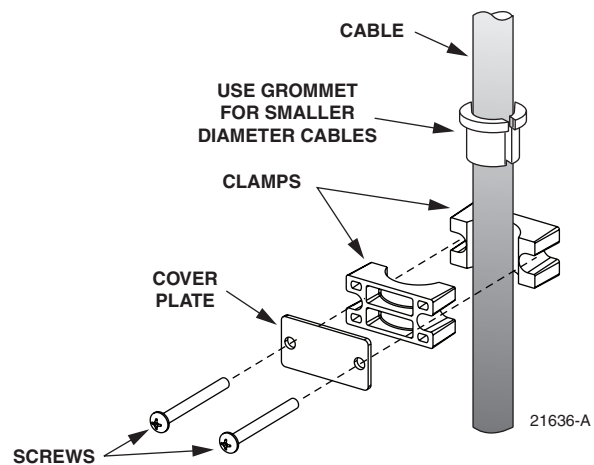

Figure 17. Cable Clamp Assembly
7. Assemble each pair of clamps (and grommet if required) on the cable as shown in Figure 17 and secure the cable to the cabinet at the feeder cable clamping position.